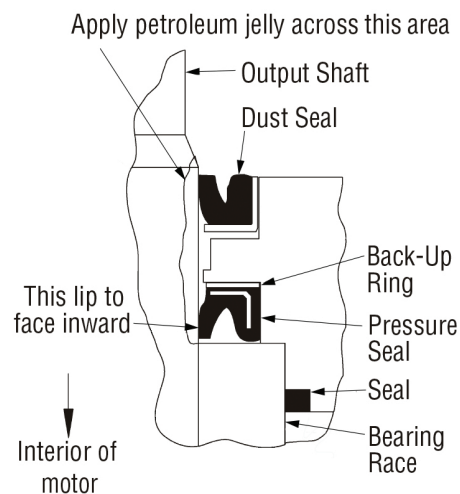

Figure 5-51, Output Shaft Lubrication
16. Before installing the mounting flange and seal assembly over the shaft, place a protective sleeve or bullet over the shaft. Then lubricate the space between the exclusion seal and pressure seal, as well as the lips of both seals. (Figure 5-51)